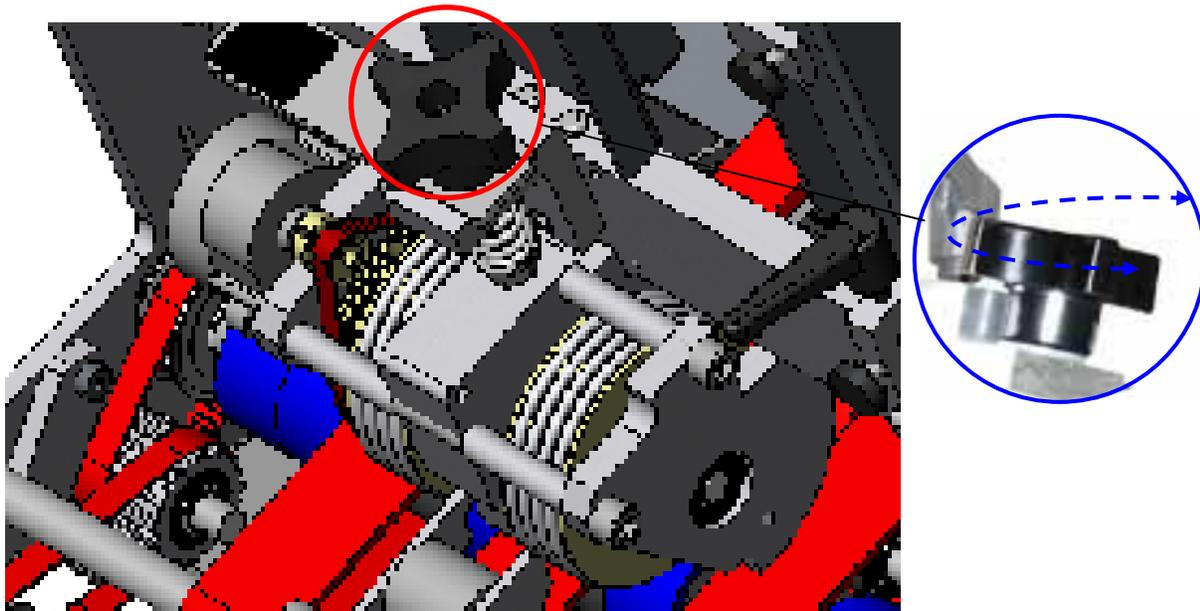

Figure III-8
Set the height of the "Separator Wheel" to allow the thickness of one (1) piece of material to pass under it. To do this, turn the adjustment knob clock wise to raise the wheel, counter clock wise to lower the wheel, see figure III-8. Note: There should be a little resistance felt by hand, when the material is directly under the separator wheels, when this is properly set. (**Tip:** The thinner the material is, the more critical this setting is).